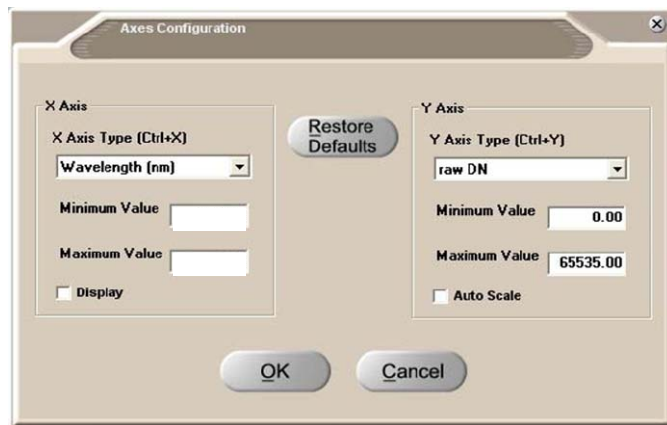

Figure 3-32: The Axes... item [Alt+D, A] to configure the display axes
- Or use keyboard command [Alt+D, A]. Both the minimum and maximum levels can be set within this screen (Figure 3-32). If the viewable range is changed, this dialog box can also be used to restore the default ranges. While the X-axis remains in wavelengths (nm), the Y-axis type can be changed to: